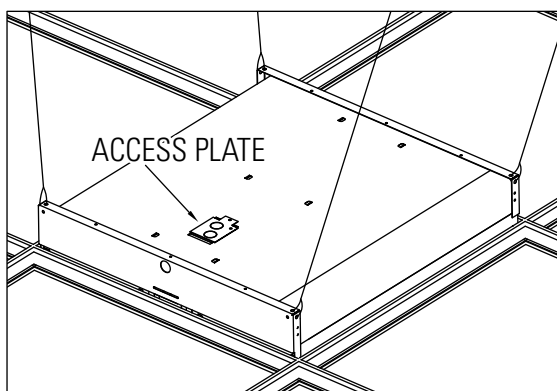

Figure 1
1. Place fixture in desired location and support ends with hang-wires from building structure above. (Fig. 1)
2. Remove ACCESS-PLATE on top of fixture to gain access to splice compartment, remove a 7/8" knock-out from ACCESS-PLATE and pull necessary wires out of fixture. (Fig. 1)